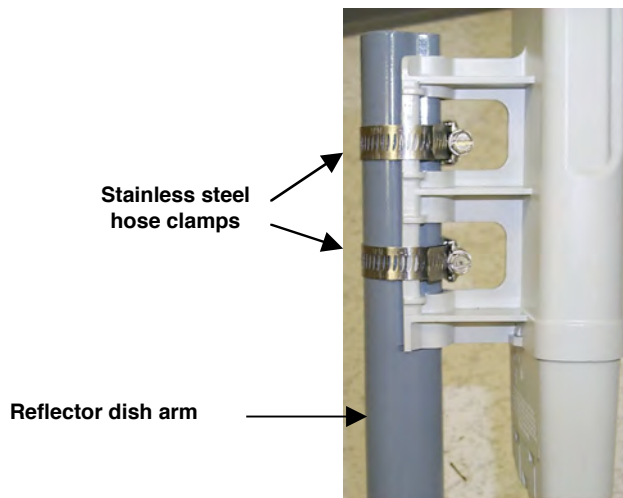

Figure 133: SM attachment to reflector arm
5. Optionally, attach the SM to the arm of the Canopy Passive Reflector dish assembly as shown in Figure 133.